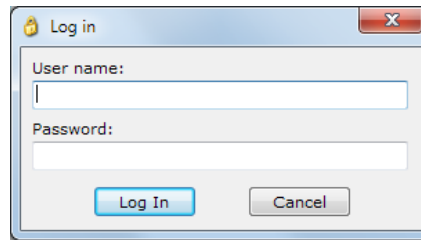

Figure 47-1. Login Screen
1. Use the Settings Explorer in BESTCOMSP*lus* to select Username Setup under General Settings, Device Security Setup. The Login dialog box appears. See Figure 47-1. An administrator access level is required to set up usernames and passwords.
2. The Login dialog box pops up. See Figure 47-1. An administrator access level is required to set up port access. Enter the username and password of the administrator and then click the Log In button. The default administrator username is “A” and the default password is “A”.